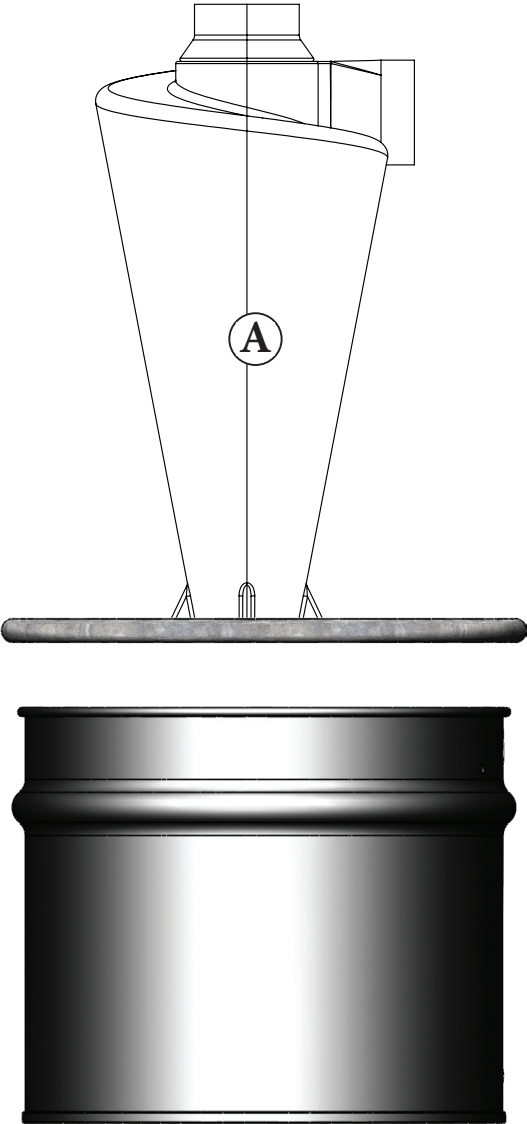

FIG. 4
- 4** Put Cyclone (A) and lid on top of your dust container and seal it airtight.[FIG. 4].